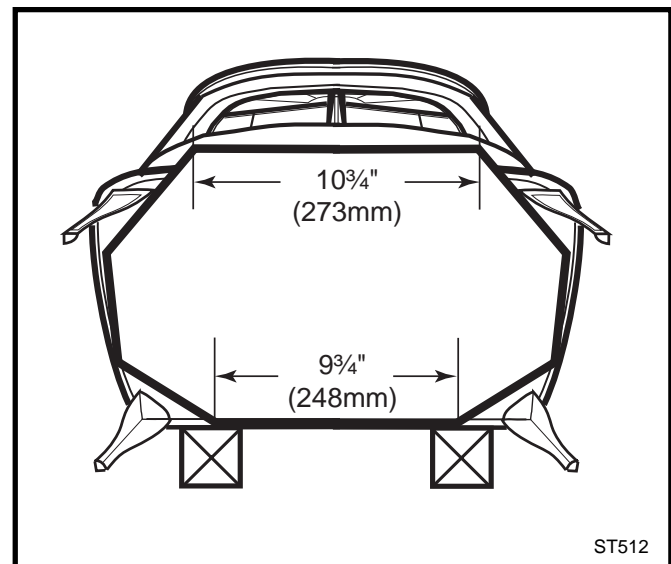

Fig. 28 Bottom Heat Shield orientation.
2. Orient the Bottom Heat Shield so that the longer edge is at the front. Refer to Figure 28. Attach the Bottom Heat Shield to the C-Clips using the wingbolts
2. Place several sheets of crumpled newspaper in the stove. Avoid using glossy or colored paper, as these burn poorly. At the front of the firebox, place on the paper six or eight pieces of dry kindling split to a finger-width size, and on the kindling lay two or three larger sticks of split dry wood approximately 1-2" (25-50 mm) in diameter. (Fig. 28)